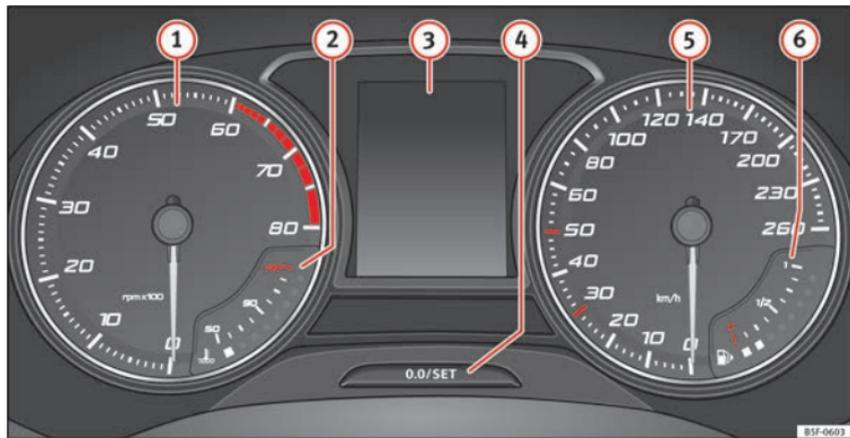

Fig. 82 Instrument panel, on dash panel
Details of the instruments »» Fig. 82:
The rev counter indicates the number of engine revolutions per minute » Fig. 82 ①.
Never allow the rev counter needle ① » Fig. 82 to go into the red zone on the scale for more than a very brief period, otherwise there is a risk of engine damage.
A variety of information can be viewed on the instrument panel display » Fig. 82 ③ depending on the vehicle equipment:
- Briefly press the button »» Fig. 82 ④ to reset the trip recorder to 0.
- Keep the button ④ pressed for about 3 seconds and the previous value will be displayed.
- To set the time, keep the button »» Fig. 82 ④ pressed for more than 3 seconds to select the hour or minute display.
- To continue setting the time, press the upper or lower part of the button ④. Hold button down to scroll through the numbers quickly.
- Press the button ④ again in order to finish setting the time.
Hold the button » Fig. 82 ④ down for more than 15 seconds to display the identifying letters of the vehicle engine (MKB). To do this, the ignition must be switched on and the engine switched off.
The coolant temperature gauge ② » Fig. 82 only works when the ignition is switched on. In order to avoid engine damage, please read the following notes for the different temperature ranges. »